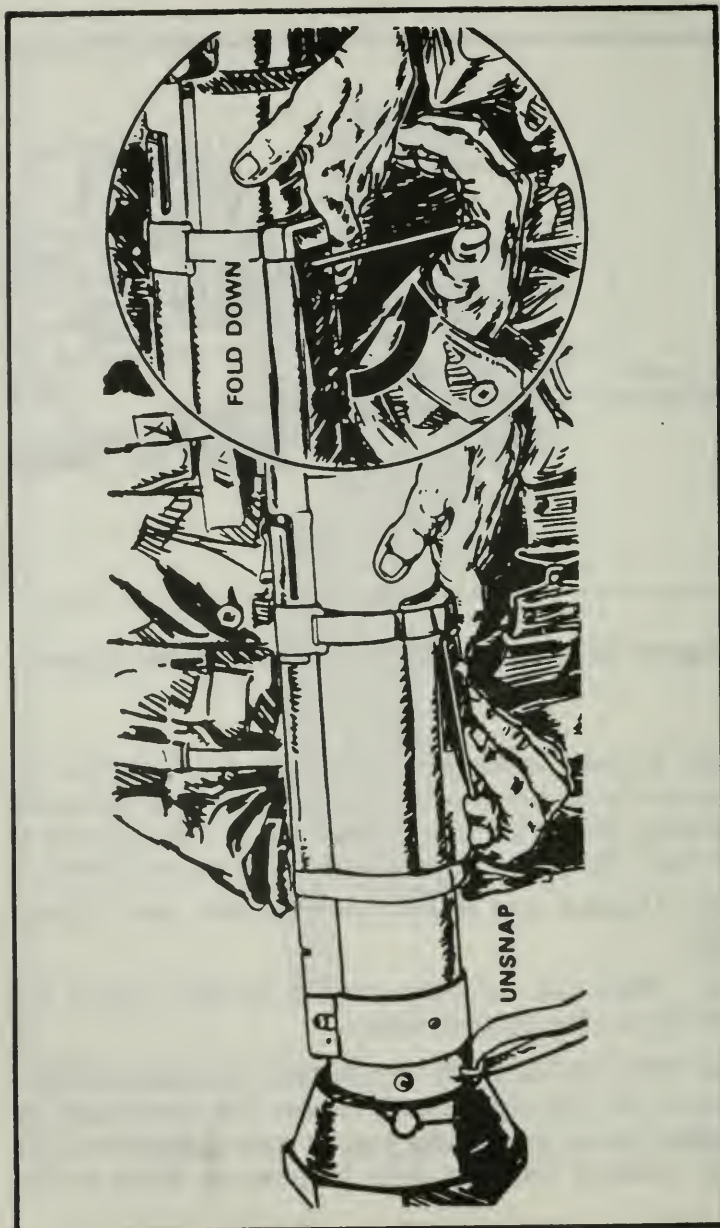

Figure 133. Unsnapping the shoulder stop.
c. Unsnap and unfold the shoulder stop (Figure 133).